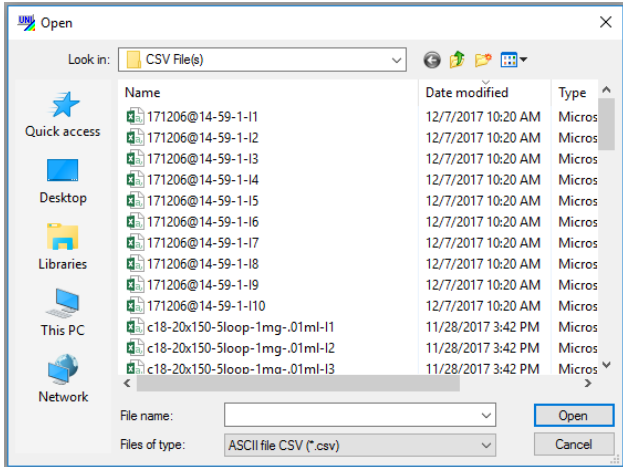

Figure 4: CSV File screen
2. Select OPEN and change the file type to ASCII CSV (*.csv), then select the file you would like to open (Figure 4).